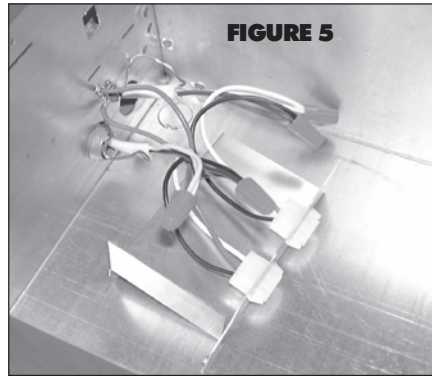

FIGURE 5
7. Connect the supply wiring to the fan wiring using approved wire nuts: black to black and white to white. Connect ground wire to green grounding screw on side of housing. Repeat wiring to second plug for light.(Fig.5).